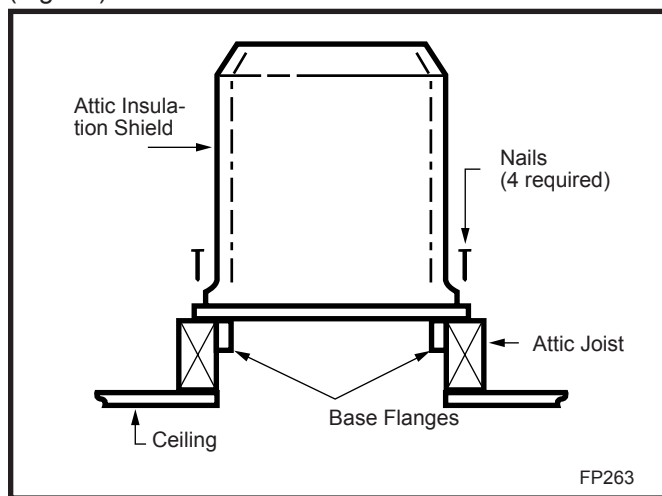

Fig. 17 Attic shield installation (Canadian requirement).
**CAUTION: When installing a fireplace in an insulated enclosure, be sure all required air spaces are maintained. (Page 13, Fig. 17)**
In Canada, an attic insulation shield is required to prevent attic insulation from contacting the chimney section. **NOTE:** If the attic insulation shield is used, the firestop is not required in the attic installation. Framing dimensions for the chimney hole should measure 17½" x 17½" (445 x 445mm). An attic shield **MUST** be installed on top of attic joists (above the floor level). (Fig. 17)